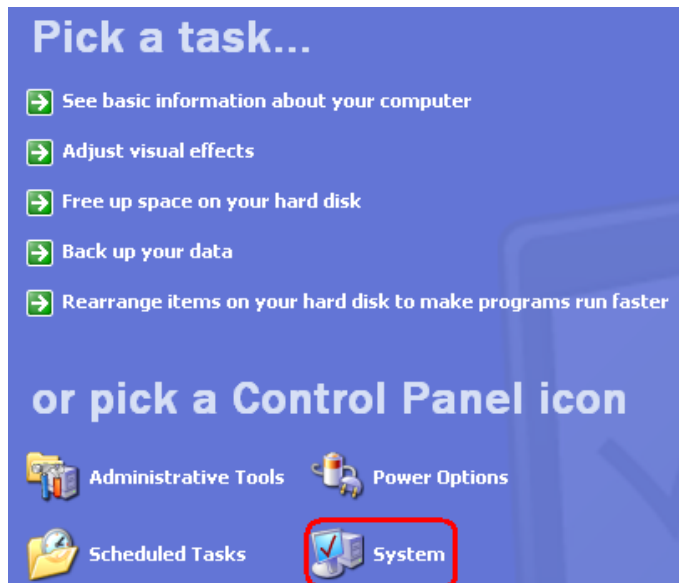

Figure 7-3: Access the System
Step 5: The screen in **Figure 7-3** appears.
Step 6: Double click the **SYSTEM** option in **Figure 7-3**.